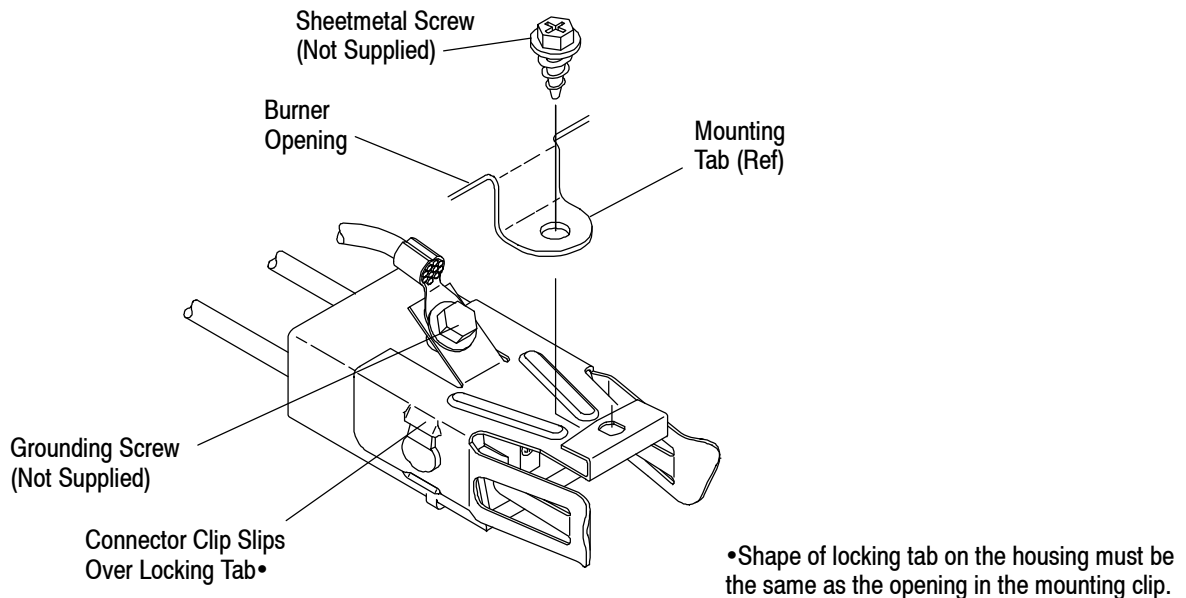

Figure 3
3.5. Attaching Hardware (See Figure 3)